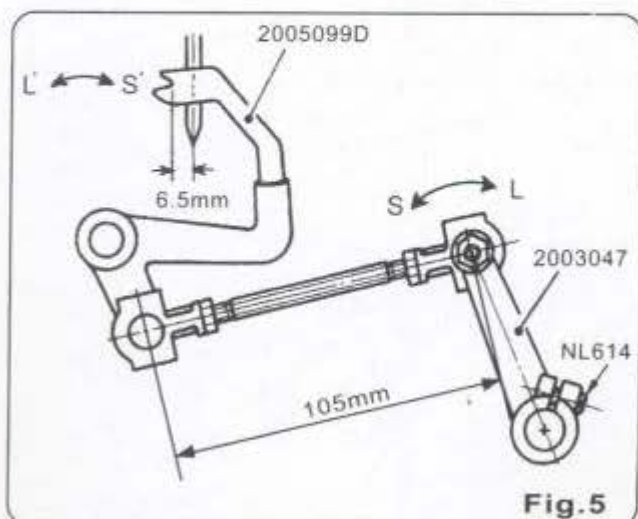

Fig. 5
Turn pulley clockwise, and check the distance between needle center and the concave part of upper looper (2005099D) at the time when upper looper is at the farthest in the left. The distance must be 6.5mm as shown in (Fig. 5). If the distance is larger or smaller than 6.5mm, carry out necessary adjustments as follows; loosen screw (NL614) of drive lever for spreader (2003047), and turn the lever down (S) to move upper looper to the right (S'), or turn it up (L) to move upper looper to the left (L'). Never fail to tighten the screw (NL614) after the adjustment.
The center distance of ball joints connecting drive lever for spreader (2003047) and spreader lever (2005095) is fixed at 105mm. Keep this dimension, otherwise timing of lower looper and upper looper will get out of order (Fig. 5)